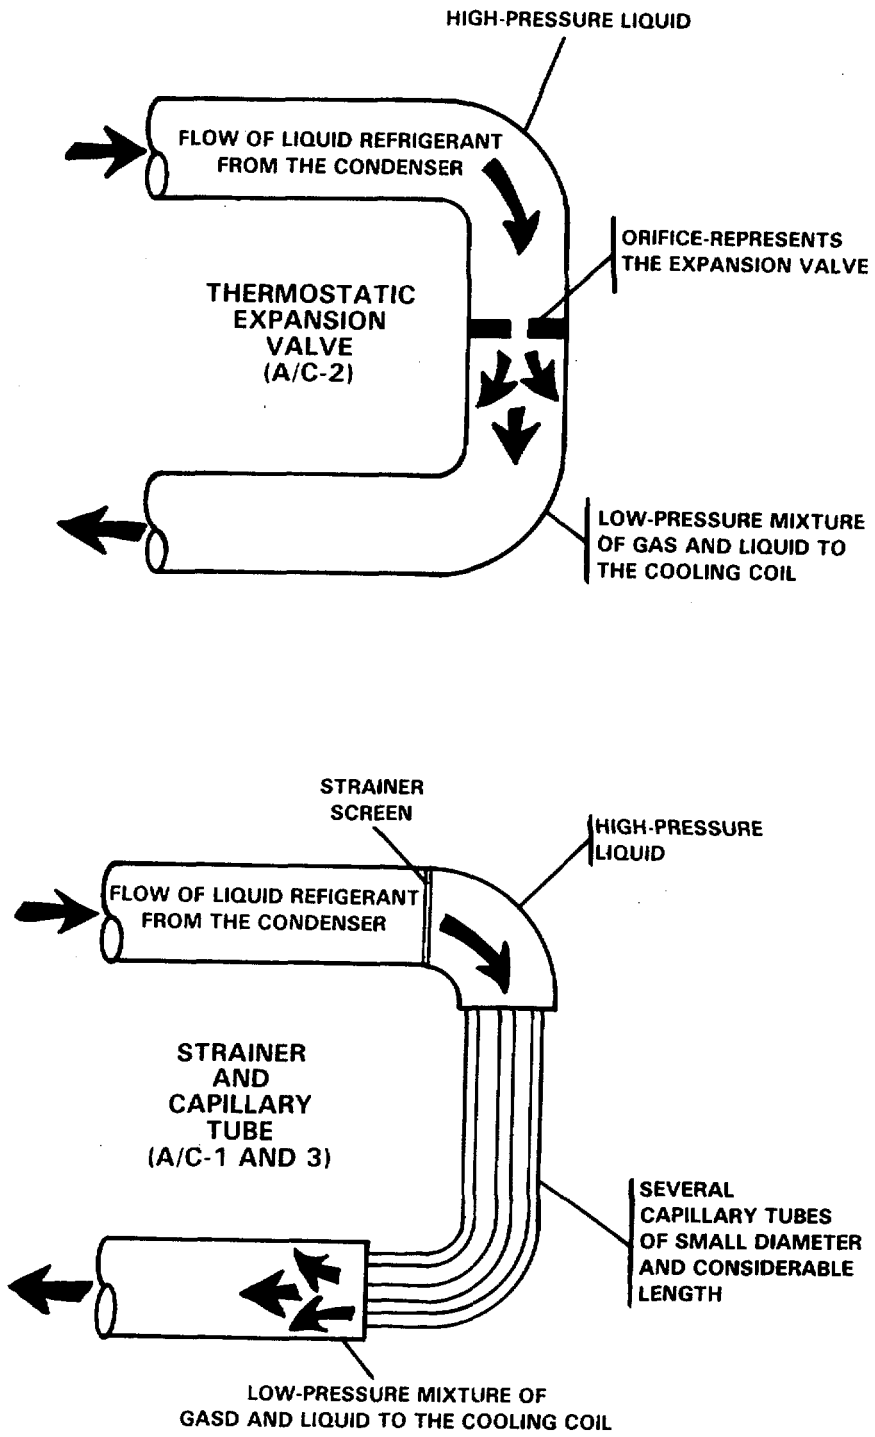

FIGURE 1-5. Methods of Metering Refrigerant Flow to the Cooling Coil (Evaporator).
- e. Expansion Valve. FIGURE 1-5 illustrates the principle of both the expansion valve method and the capillary tube method of metering the refrigerant flow.
- (1) Expansion Valve Method. The expansion valve reduces the pressure of the refrigerant liquid, and in doing so, it cools the liquid. Refrigerant enters the valve under pressure. As it passes through a small valve port, it enters the low pressure area of the cooling coil. The valve port acts as a metering device between a high pressure area (the condenser), and a low pressure area (the cooling coil). As the pressure is reduced, the point at which the liquid becomes a vapor is also reduced. Therefore, after the liquid refrigerant passes through the metering port in the expansion valve, it begins to vaporize in the cooling coil because it is now in a low pressure area.
- (2) Capillary Tube Method (Self-Contained A/C Units). The principle, or function, of the capillary tube method is the same as that of the expansion valve method. The basic difference in the two methods is that the refrigerant is metered through a series of long, small diameter capillary tubes instead of through a single, small valve port. (See FIGURE 1-5.)